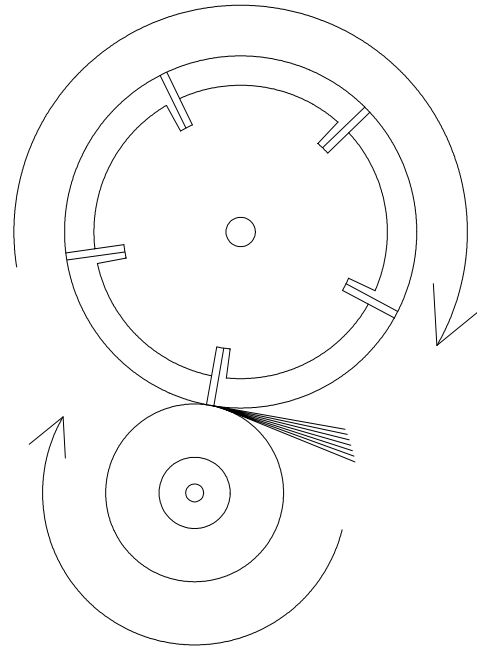

FIG. 30
Turn on the Grinding Wheel Motor and the Spin Drive Motor. Set the Spin speed at approximately 210 rpm for 10" [254 mm] reels and 400 rpm for 5" [127 mm] reels. (Refer to Spin Drive Speed Chart). Make sure spin rotation is the same as the grinding wheel - clockwise (CW) looking from right end. See FIG. 30.